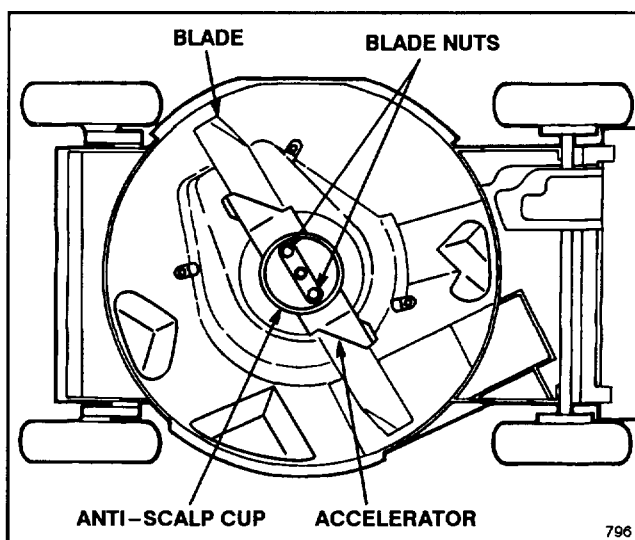

Figure 33
4. Remove (2) blade nuts, anti-scalp cup, accelerator, and blade (Fig. 33).